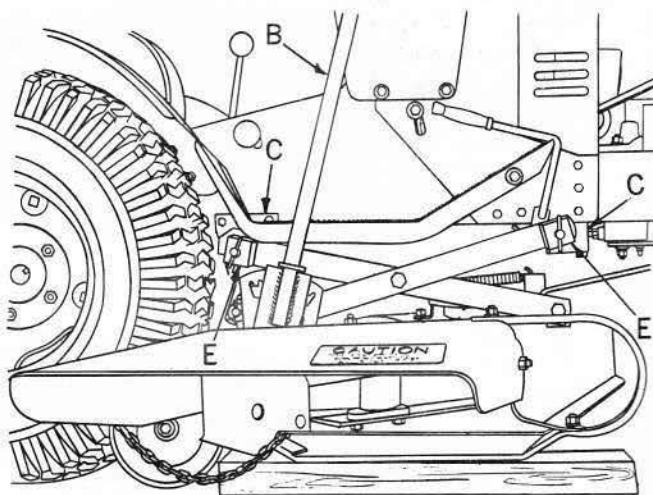

FIG. 10
9. Place lift lever (B), in extreme forward position.
10. Refer to Fig. 10. Grasp suspension arms by spring boxes (E). Raise R.H. suspension arms and align with holes in front and rear hanger brackets (C).